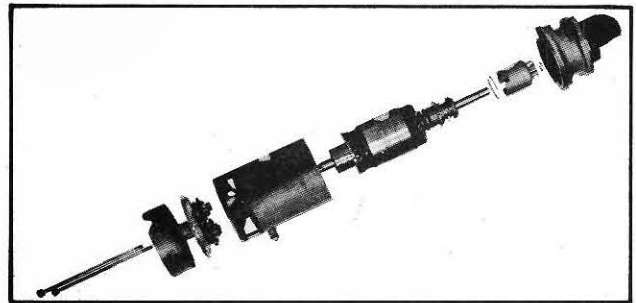

Fig. 185
3. Remove the drive end housing. The component parts are shown in their relative positions in Fig. 185.